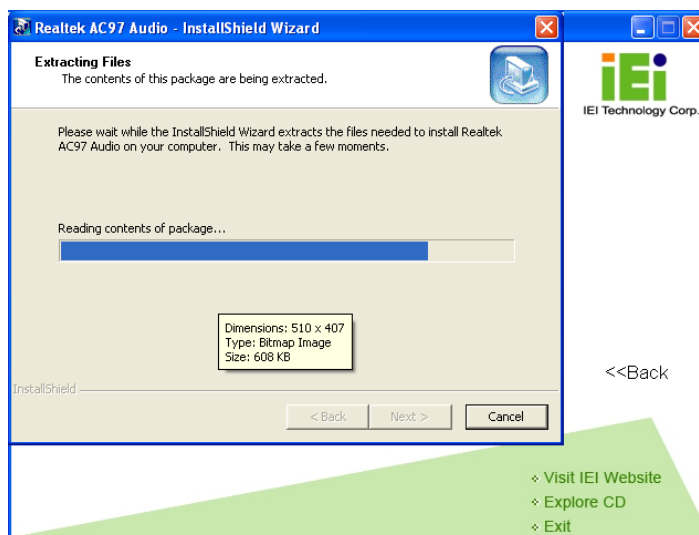

Figure 7-22: AC’97 Driver Installation File Extraction
Step 5: The installation files are extracted as shown in Figure 7-22.